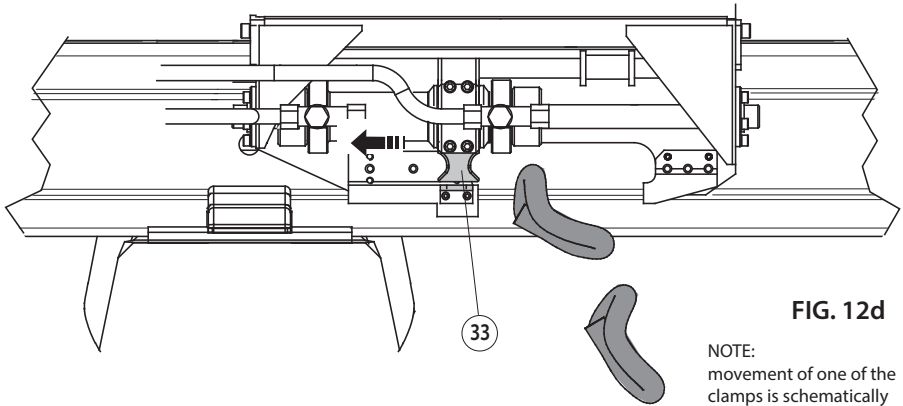

FIG. 12d
- After removal, pull the control lever to "INSERT" position for forward movement of teeth (33) (see fig. 12d).